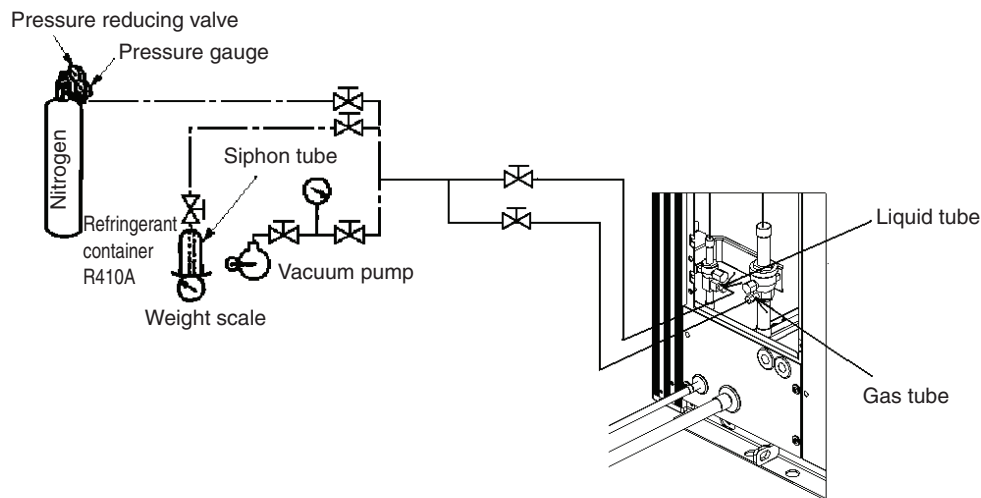

Figure 5
- Connect the manifold gauge to both service ports - on the wide tube side and narrow tube size. Then connect the nitrogen tank, vacuum pump, and other items as shown in Fig. 5.